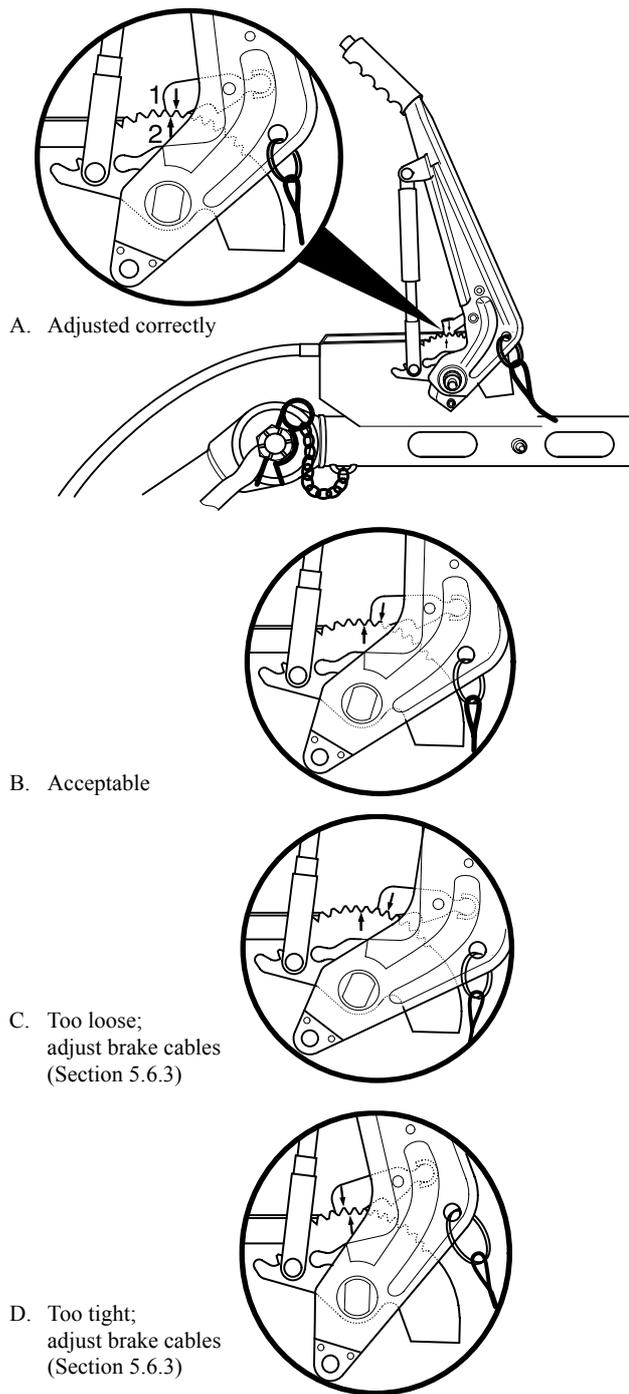

Fig. 5.6 Correct and wrong position of markings
3. Check the position of the arrow marking "1" at the catch lock in combination with the arrow marking "2" at the toothed sector, according to Fig. 5.6 A,B,C,D.